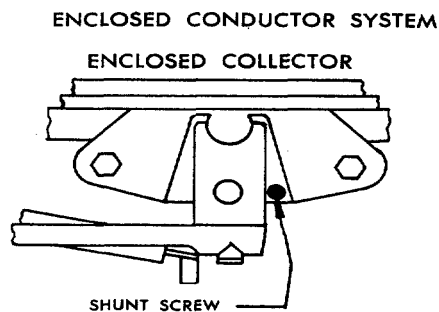

FIGURE 8.
9. Attach wires to collector's shunt screw ( Fig. 8).